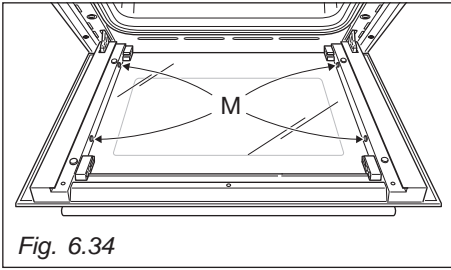

Fig. 6.34
- Check that the four rubber pads are in place ("M" in fig. 6.34).